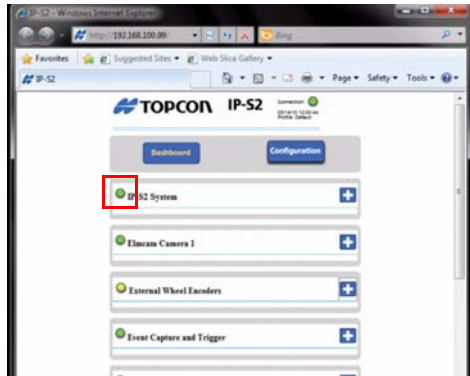

Figure 2-3. IP-S2 Web Manager – Dashboard Tab
3. On the IP-S2 Web Manager, wait for the status circle next to each component (Figure 2-3) to turn green, which means the sensor is operating properly. A yellow circle means the sensor is still activating, and a red circle means there is an error with the sensor.